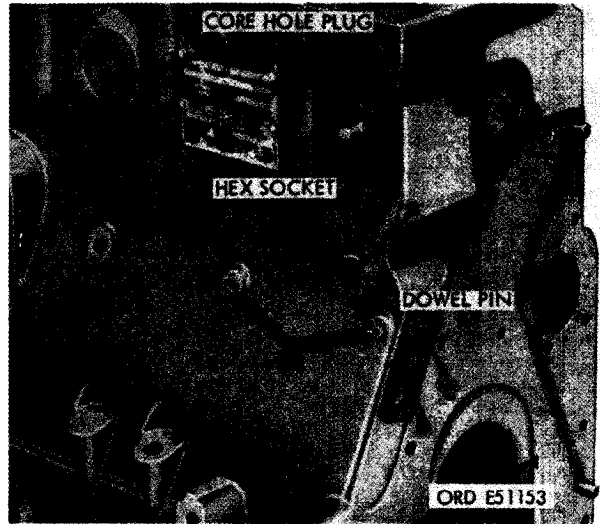

FIGURE 319. REMOVING OR INSTALLING CYLINDER AND CRANKCASE PIPE PLUGS - RIGHT FRONT VIEW.
- (2) Figure 319. (A) Remove two 1/8-inch hex-socket pipe plugs. (B) Remove 1/4-inch hex-socket pipe plug. (C) Remove 3/8-inch, hex-socket pipe plug. (D) Remove 1/4-inch square socket pipe plug.